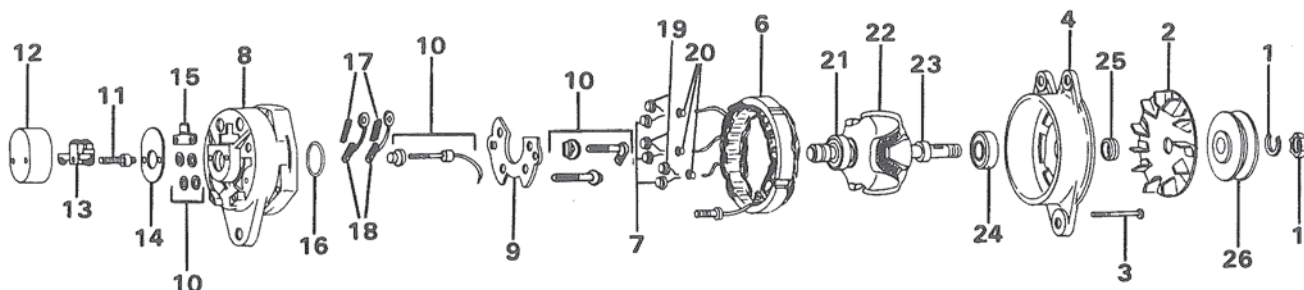

Figure 32. Alternator Components.
4. To remove drive end head from rotor, use a puller that grips the bearing retaining plate. Figure 32.